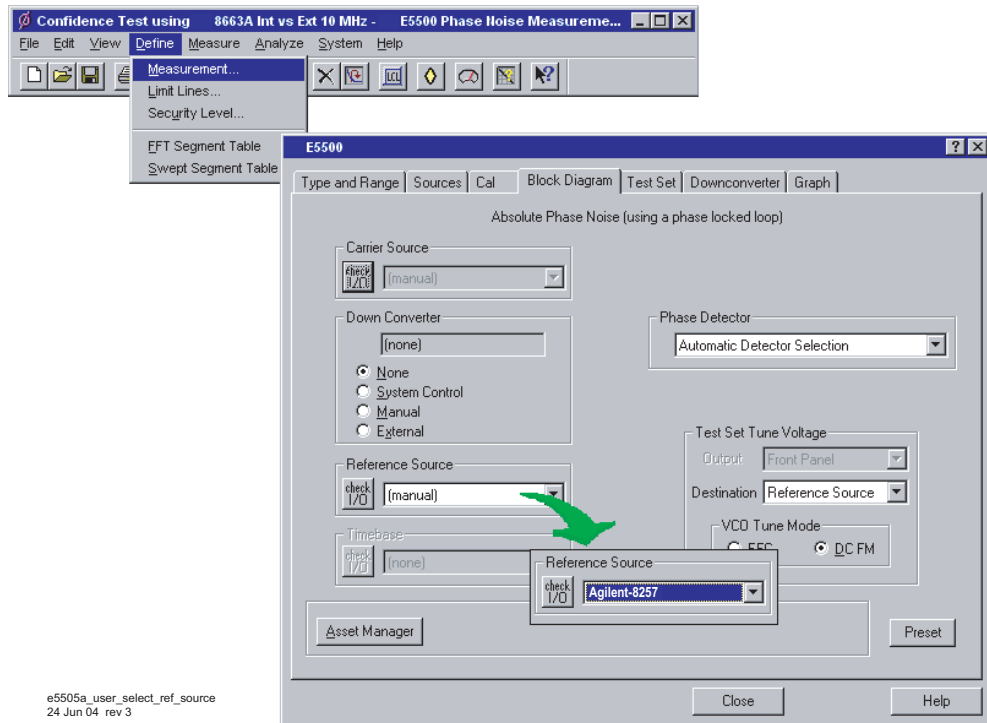

Figure 38 Selecting a reference source
- 1 Using Figure 38 as a guide, navigate to the **Block Diagram** tab.